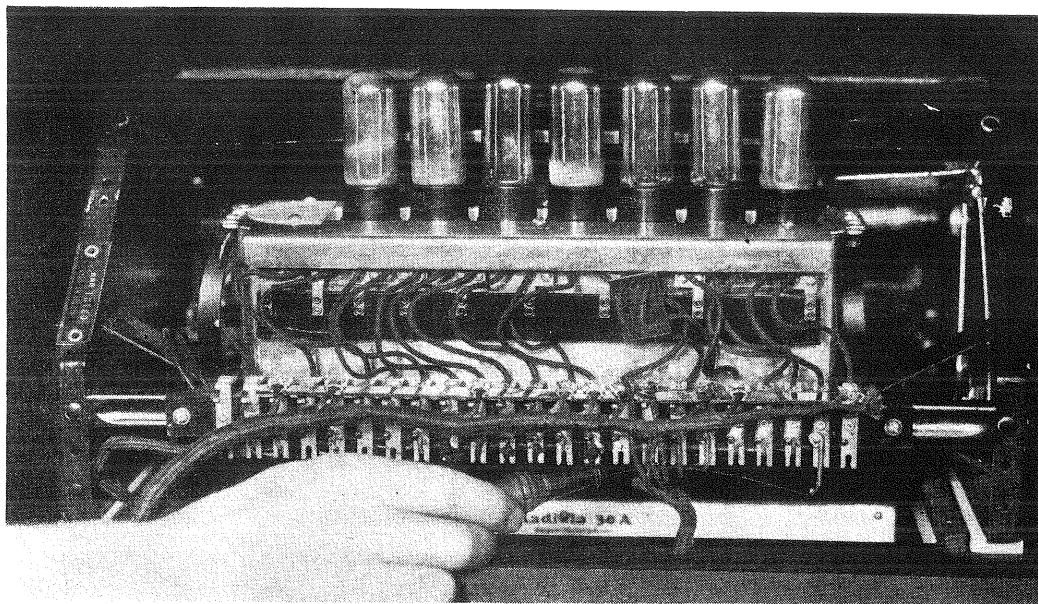

Figure 7—Adjusting neutralizing condenser
4. With the foregoing changes the oscillator signal should be very weak or should not be heard at all. If it is heard, even though weak, break the wax seal of the neutralizing condenser adjusting screw and alter the condenser capacity (Figure 7) until there is a minimum signal heard in the reproducer unit. If the volume control is reduced so that the neutralizing adjustment will cause the signal to just disappear, a proper adjustment has been found, and the adjusting screw should be again sealed with ordinary sealing compound, to prevent any change.